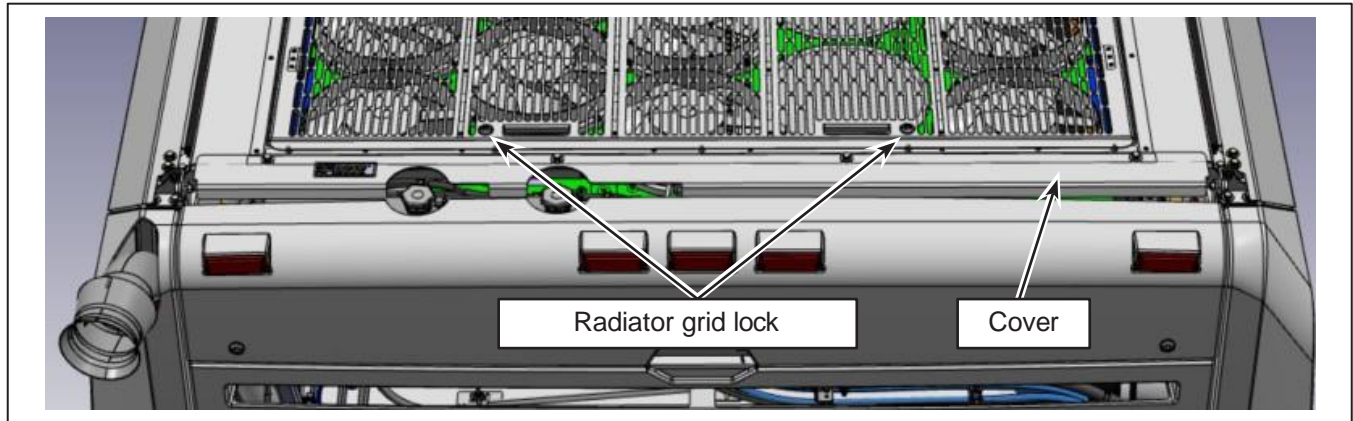

Figure 2 - Radiator Grid and Cover
- 1.6. Turn the lock and remove the radiator grid. Retain the grid and hardware. See Figure 2.
- 1.7. If required to access the coolant hose split block remove the cover located between the radiator and the surge tank. A double face foam affix a portion of the cover. Retain the cover and hardware. See Figure 2.